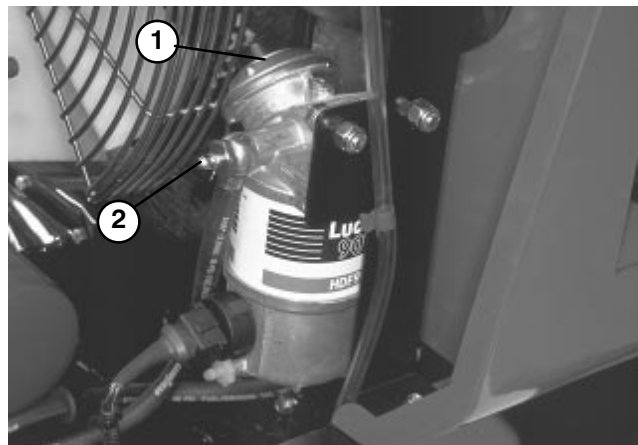

Figure 13
Note: The fuel pump, located on left side of engine, behind fuel injection pump, can be manually primed to get fuel from fuel tank to fuel filters and water/separator (Fig. 13).
2. Insert a 3/16" hose over bleed screw and run other end into a container to catch fuel (Fig. 13).
3. Loosen fuel filter / water separator bleed screw (Fig. 13) a few turns. Pump priming plunger until a steady stream of fuel comes out of hole in bleed screw. When fuel stops foaming, tighten the bleed screw during the downstroke of the priming plunger. Wipe up any spilled fuel.